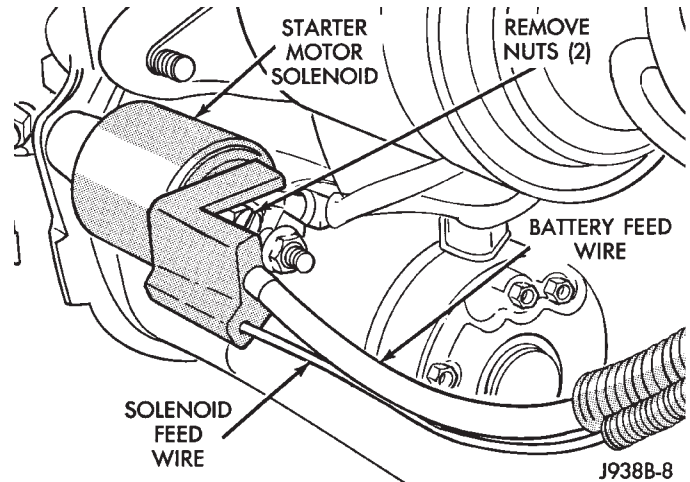

Fig. 4 Solenoid Harness Removal—Typical
- (1) Disconnect negative cable from battery.
- (2) Raise and support vehicle.
- (3) Disconnect the battery wire and solenoid feed wire connector (Fig. 4).